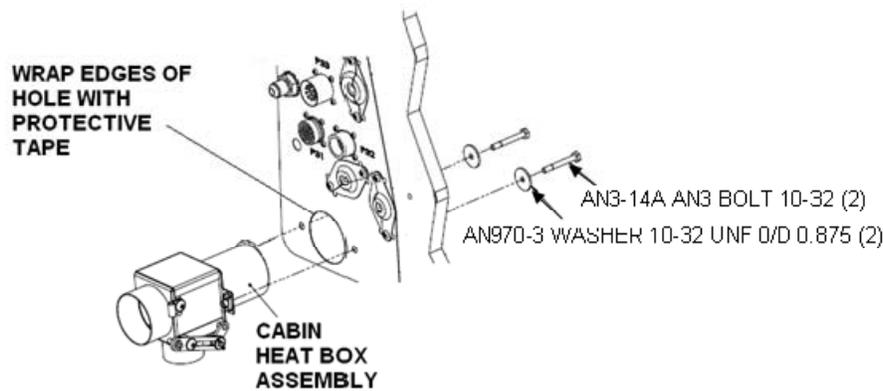

Figure 71-36 Cabin Heat Box Assembly Installation
6. Install two bolts and two washers as shown in Figure 71-36 to secure cabin heat box assembly.